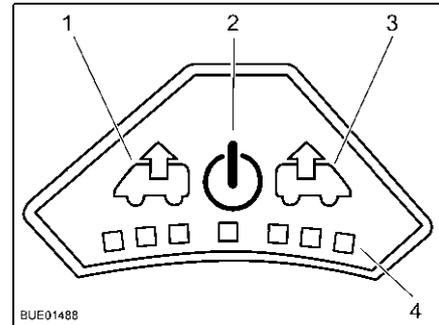

Fig. 90 Control panel for fan
**Switching on:** ■ Press the On/Off button (Fig. 90,2). The fan runs in comfort mode (venting at slowest fan speed).
**Venting:** ■ To increase the fan speed: Press the Vent button (Fig. 90,1). The fan speed in the venting direction increases by one level. LEDs (Fig. 90,4) show the operating levels.
■ To lower the fan speed: Press the Aerate button (Fig. 90,3). The fan speed decreases by one level.
- To increase the fan speed: Press the Aerate button (Fig. 90,3). The fan speed in the aerating direction increases by one step. LEDs (Fig. 90,4) show the operating levels.
- To lower the fan speed: Press the Vent button (Fig. 90,1). The fan speed decreases by one level.
- Press the On/Off button (Fig. 90,2). The fan stops, the LEDs go out.